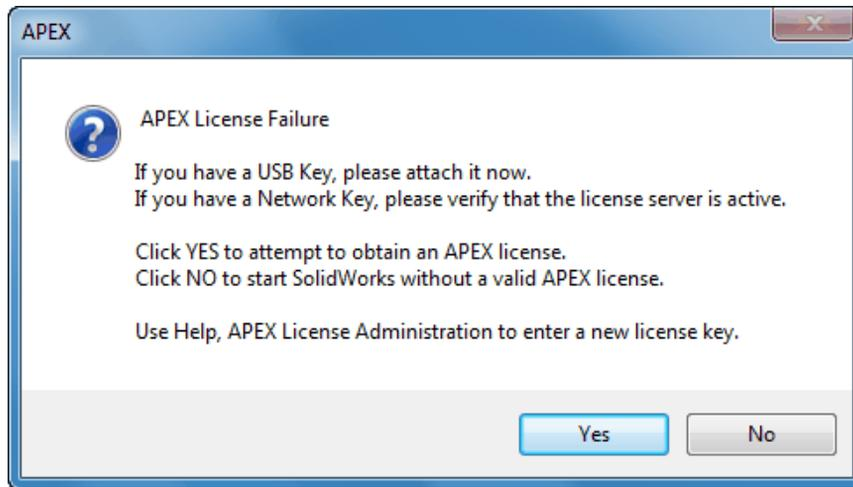

Figure 5 APEX License Failure dialog box - click No to proceed
- 5 The APEX License Failure dialog box is displayed, as shown in Figure 5. This message is not indicating a problem; it simply means that the software keys are not imported at this point. Click **No** to proceed.